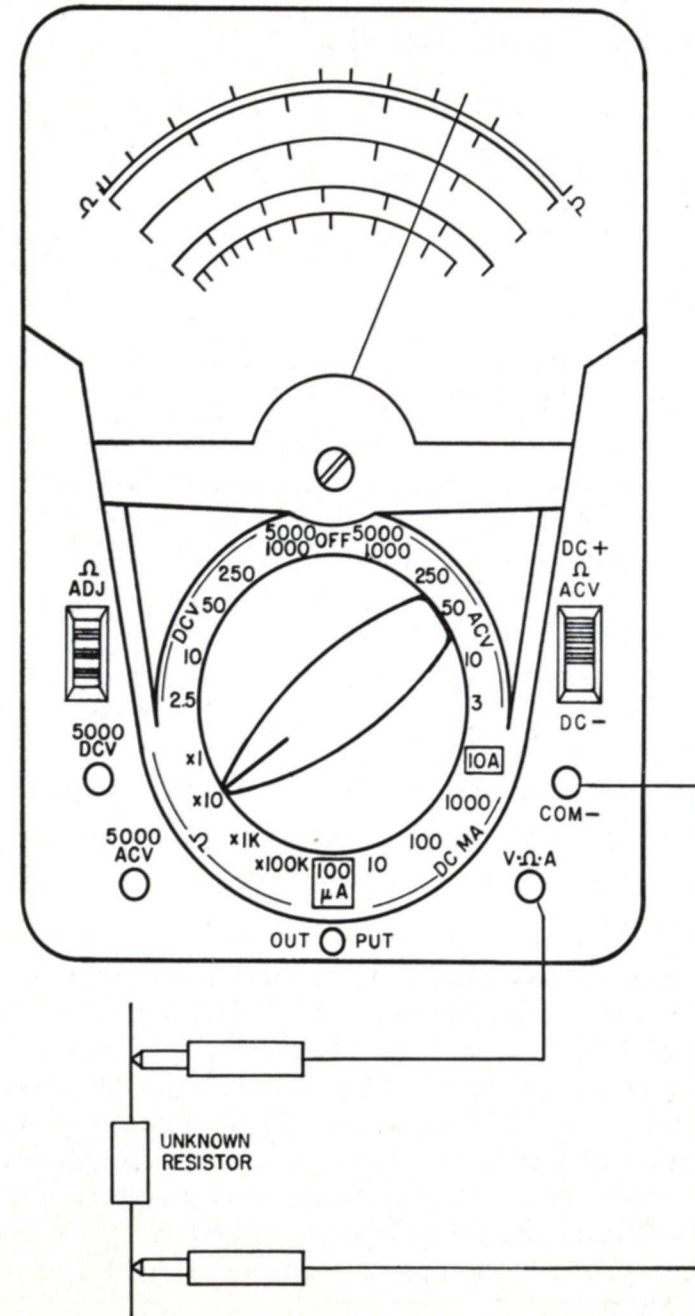

Figure 3—Measuring DC Resistance
**Measuring DC Resistance (Fig. 3)**
Plug the black test lead into the COM jack and the red lead into the V- $\Omega$ -A jack as shown in Figure 3.